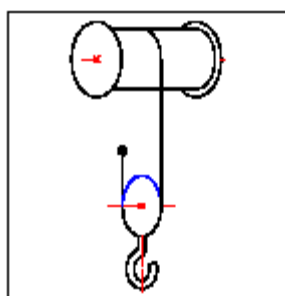
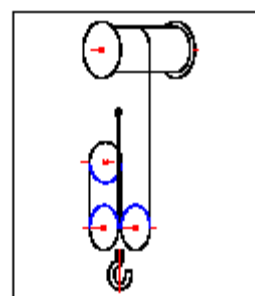

Fig. 8 – size 2/1
Fig. 9 – size 4/1
- Pass the end of the rope into the pulley block for the CUB (fig. 8), into the pulley block, into the counter pulley and into the other pulley block for the CHA and CHB as shown in the fig. 9.